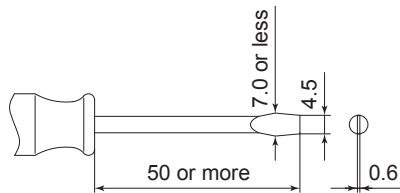

Fig. 32
- Use a flat blade screw driver with a width of 4.5mm and a length of 50mm to properly fit the Adjuster Bolt in the face of the Tool Depth Stop (Fig. 32).